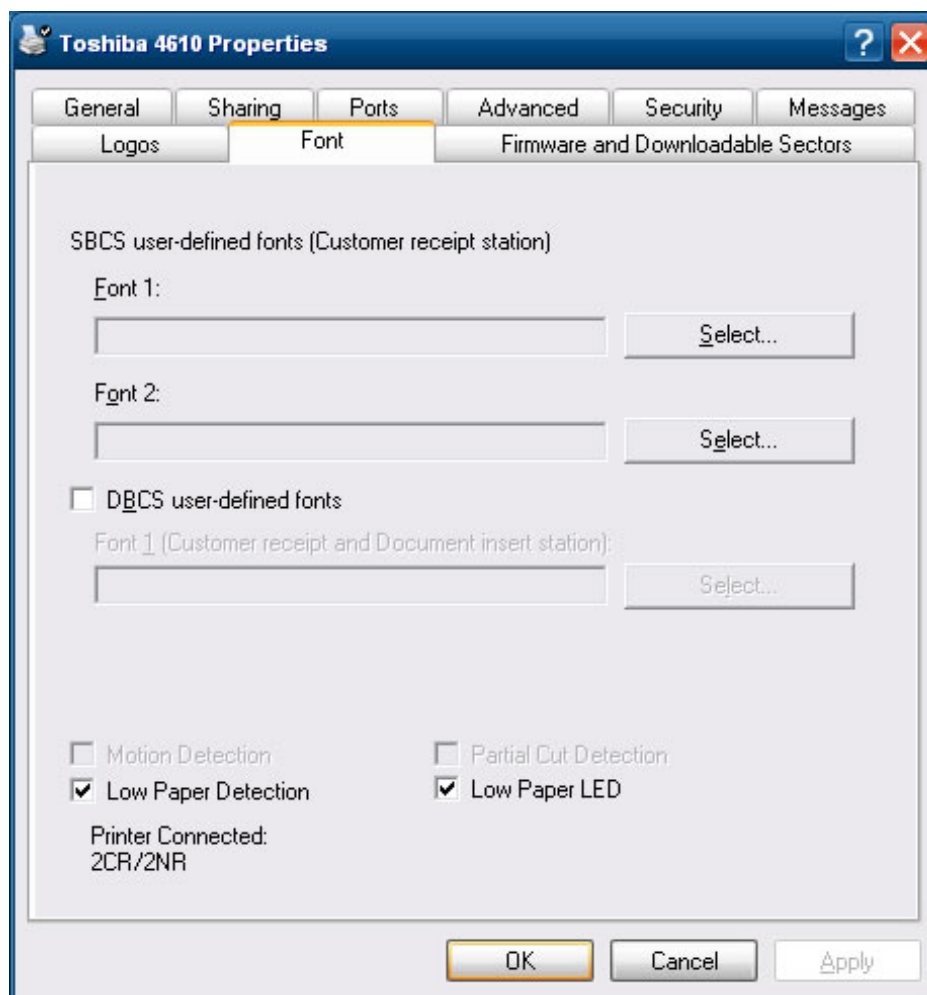

Figure 51. Fonts tab
3. Click the **Fonts** tab (see Figure 51).